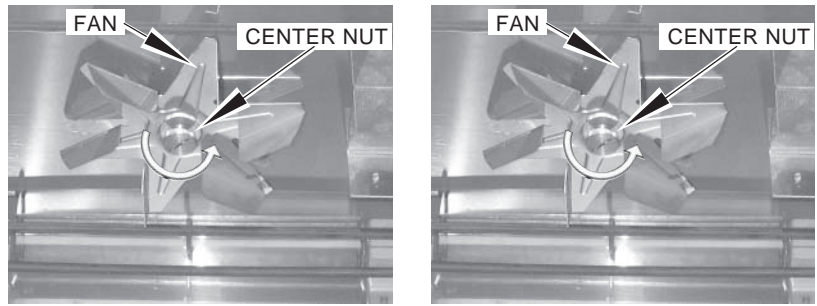

Fig. 68
- After cleaning, reinstall 2 fan blades: Mate D-shaped hole on fan onto D-shaped shaft; then tighten nut (counterclockwise) (Fig. 68).